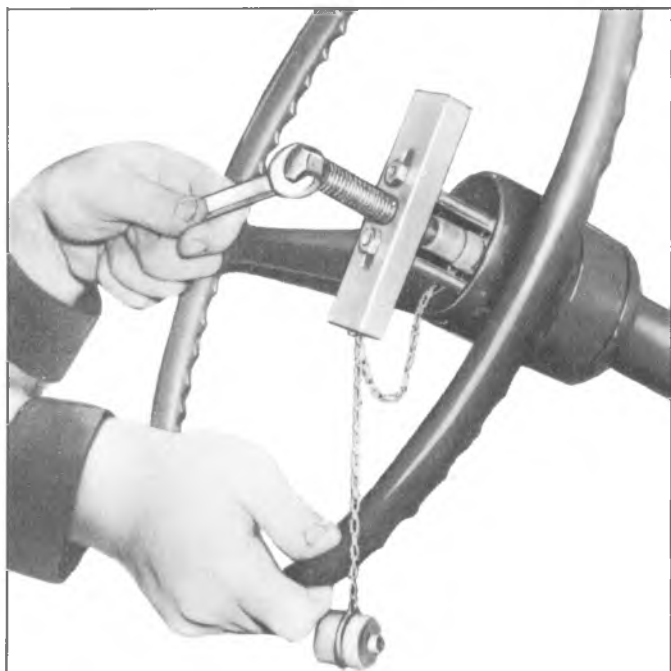

Fig. 3B-44-Steering Wheel Removal-Typical
4. Use Tool J-2927 to remove wheel (Fig. 3B-44).